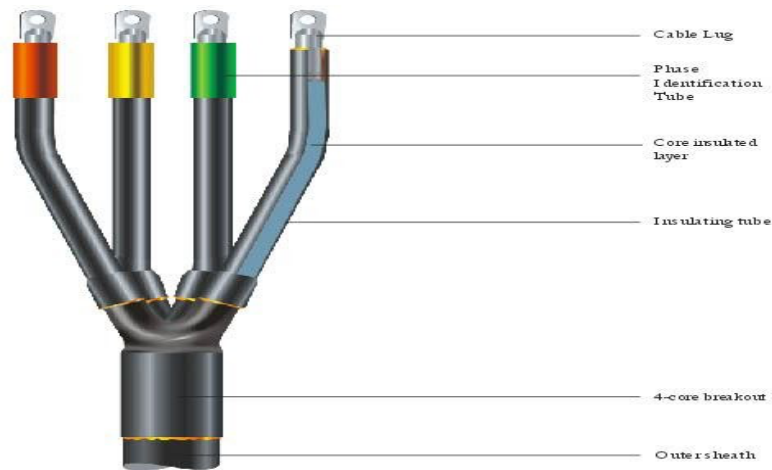

Figure 1: Phase identification tubes/tapes (Use the actual standard phase identification colors: Red, Yellow and Blue)
- 5.1.5 Cable core markers shall be checked, phase conductors shall be identified and checked using standard phase color identification as given in figure 1 before performing termination & jointing;
- i. Cable cores and phases shall be marked with appropriate marker/use phase identification markers as shown in Figure 1. Phase identification should be visible at all times.
- ii. When terminating the cable to or from a Substation panel busbar, Distribution pillar (DP) busbar, Substation Gantry, and Power/ Distribution Transformer, phases on the cable shall be clearly marked using the Phase identification tapes/tubes and maintain at all times.
- 5.2.5 Permanent cable identification tag/tube/tape shall be installed as shown in figure 1 below;